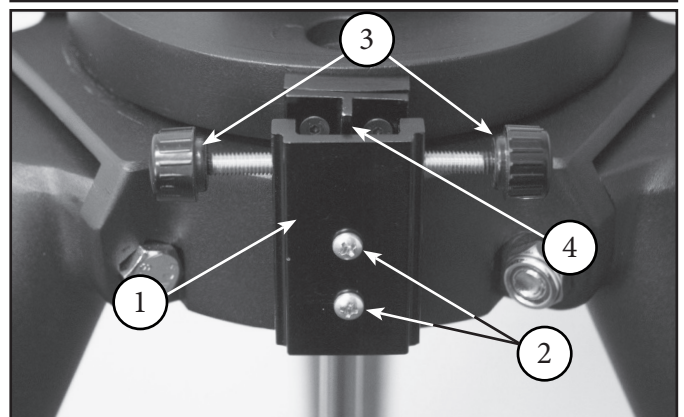

Fig. 5: Attach Azimuth Base
3. Attach the azimuth base (1, Fig. 5) to the tripod using the two 8-32 x 1" round-head machine screws (2, Fig 5).
4. Thread the two azimuth adjustment knobs (3, Fig. 5) into the azimuth base, until they just touch the azimuth arm (4, Fig. 5).
2. Rotate the wedge by using the two azimuth knobs(3, Fig 5) in a push-pull manner.